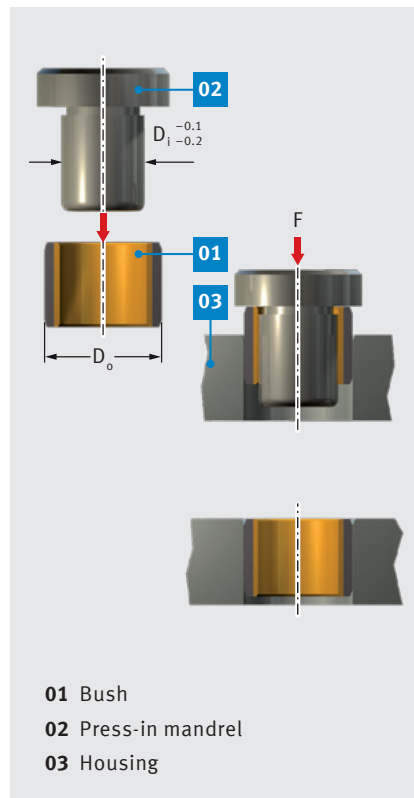

Fig. 51: Flush press-fitting $D_o \leq 55$ mm
- Flush press-fitting with mandrel, without auxiliary ring, as per Fig. 51